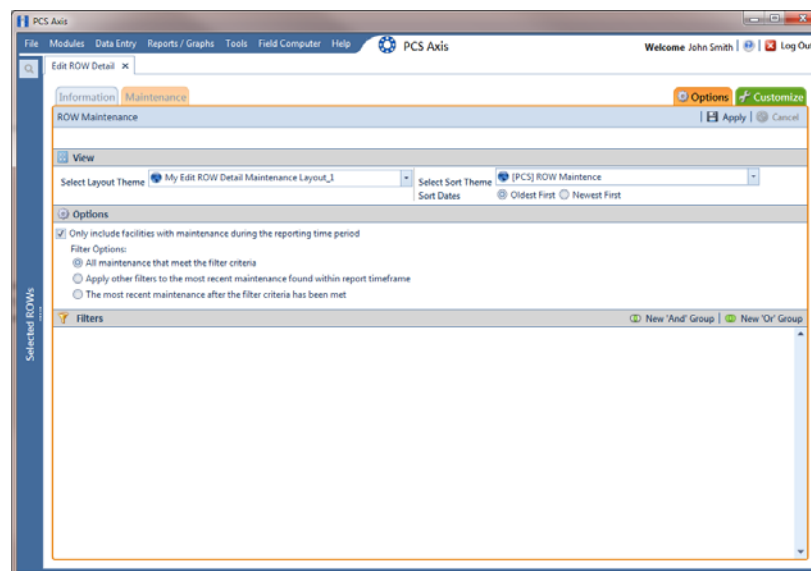

Figure 4-47. Options/Maintenance Grid
- 2 Click the **Maintenance** tab , then the **Options** tab  to open the *Options* page (Figure 4-47).